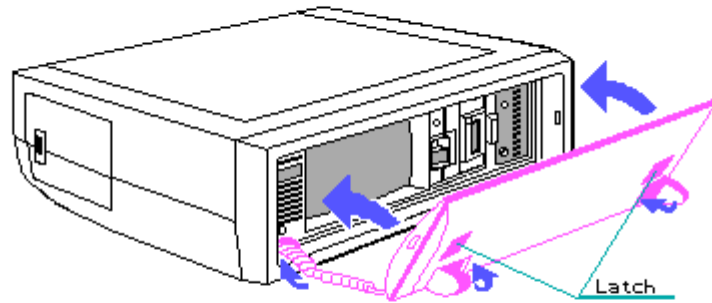

Figure 7.2-1. Closing and Locking the Keyboard
2. Close the keyboard and secure it in place by sliding the latches to the LOCK position. Fold the keyboard feet in place. (Figure 7.2-1).